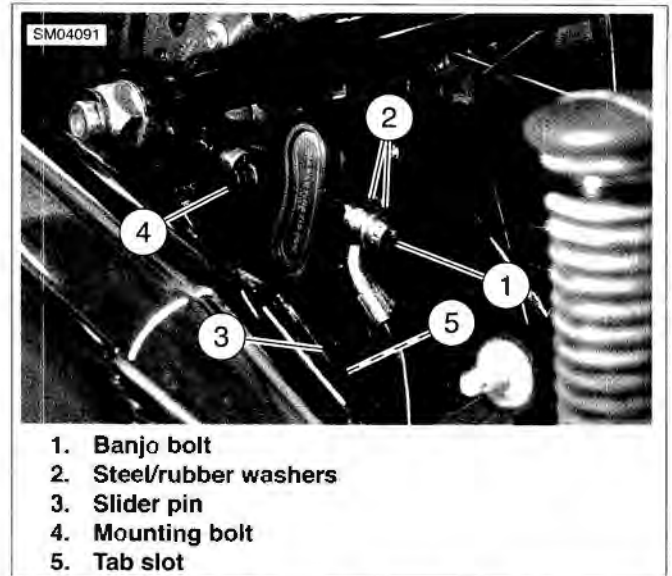

Figure 2-52. Rear Caliper
2. See Figure 2-52. Remove the banjo bolt (1) and both steel/rubber washers (2) to detach rear brake line from caliper. Discard washers.
3. Remove both the slider pin (3) and mounting bolt (4) (metric). Remove caliper assembly from brake disc.
3. See Figure 2-52. Install caliper with pads on caliper mount. Tighten slider pin (3) and mounting bolt (4) (metric) to 10-14 **ft-lbs** (13.6-18.9 Nm). Ensure tabs on brake pads engage slot (5) in caliper mount.